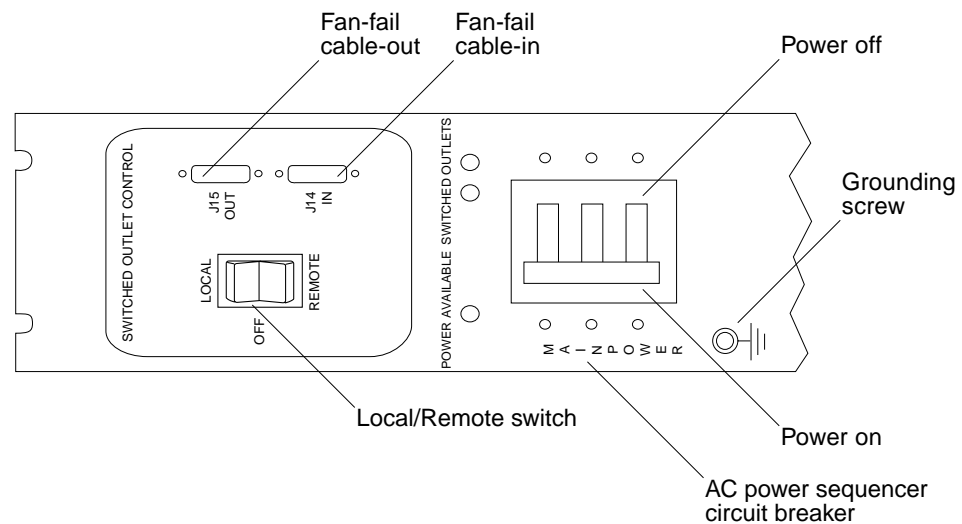

FIGURE 3-2 Power Sequencer Control Panel
3. Verify that each AC power sequencer circuit breaker is in the Off position and that the Local/Remote switch is in the Local position (FIGURE 3-2).